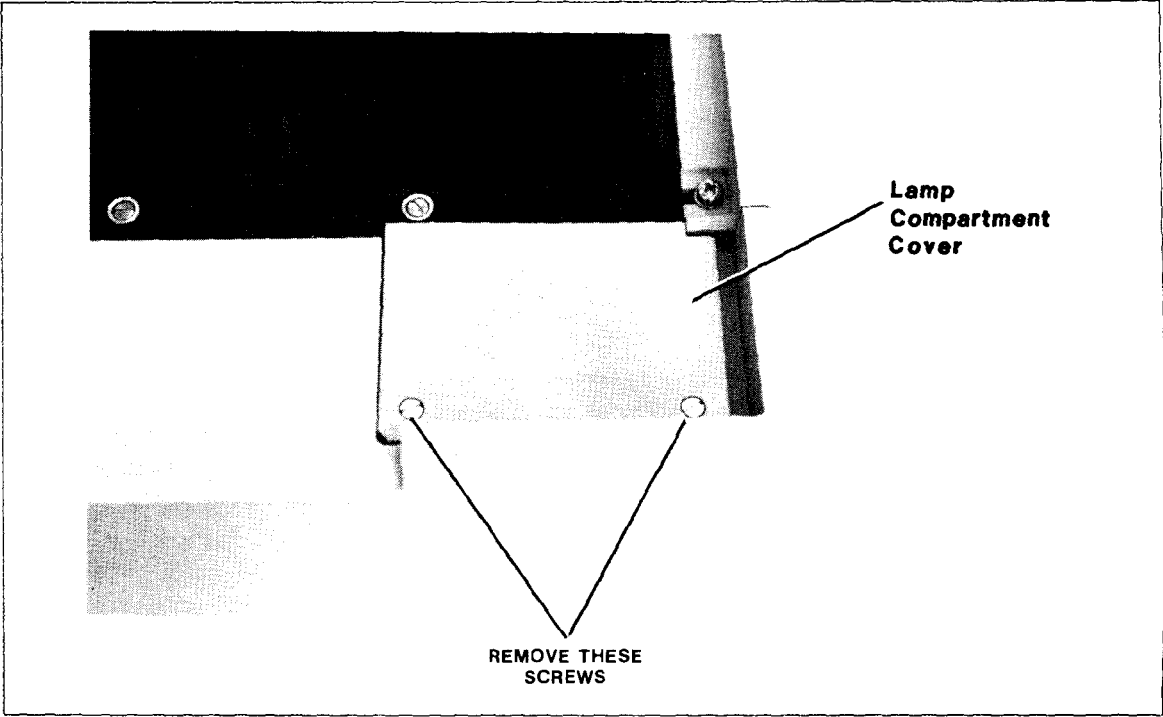

Figure 9-1. Lamp Compartment Cover
3. Locate and loosen the two screws holding the lamp compartment cover in place (see Figure 9-1).